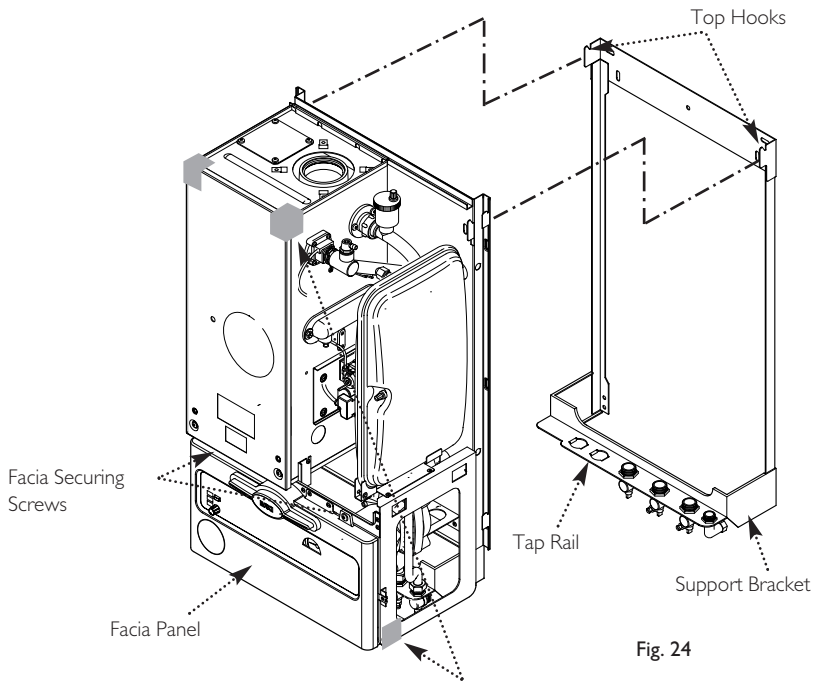

Fig. 24
### 8.4 Fitting The Boiler (Fig. 24)
2. Lift the boiler over the support bracket using the lifting points shown in Fig. 24 and engage onto the top hooks (see Lifting paragraph page 4).
**NOTE:** When installing in Loft/Small Compartment access for lifting the boiler from the front can be gained for two people using the lifting points (Fig. 24).